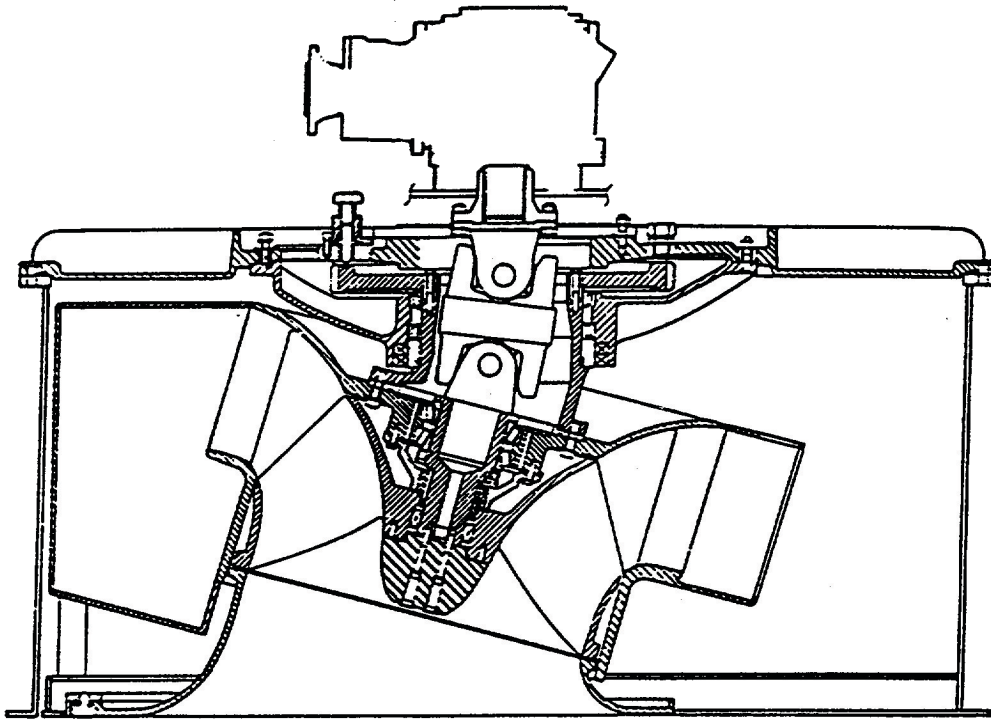

FIGURE 1-9. Waterjet Assembly.
g. Waterjet Assembly. (FIGURE 1-9). This assembly includes the well cover plus associated waterjet components within the well. The impeller shaft drives the rotor assembly to which the impeller wheel is bolted. The entire assembly including the surrounding inlet and discharge casings is inclined 15 degrees to give a downward slope to the waterjet discharge. This rake is established by the design of the steering tube. Within the tube are two universal joints on the lower impeller shaft to accommodate this angular change. The impeller wheel spans the inclined throat of the flared inlet casing and forces water upward and outward into the discharge spiral and nozzle.